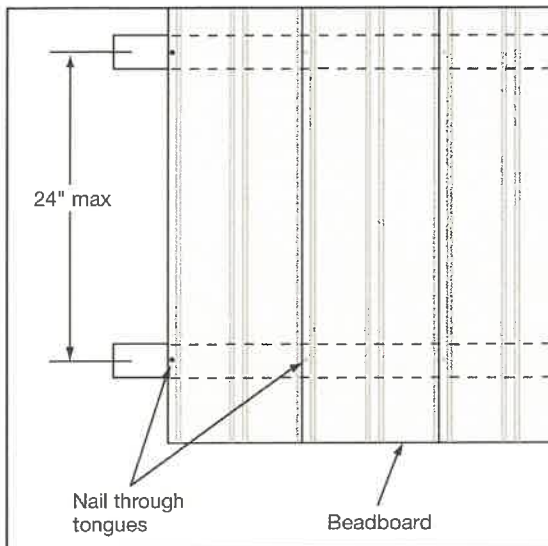

Fig. 36
- **4", 6", and 8" wide Beadboard only:** Can be installed with 15-gauge trim nails through the tongue (**Fig. 36**)